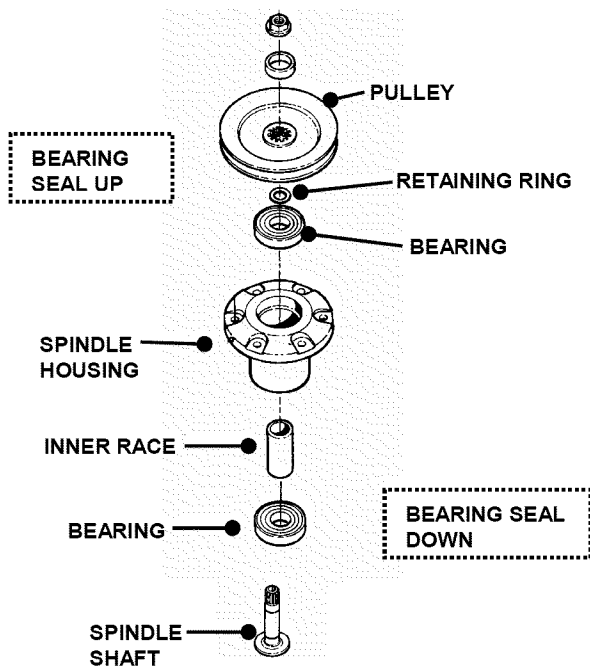

FIGURE 4.39
- 4. Top and bottom bearings are now removable. Pull out on inner race to slide bearing from housing. See Figure 4.39.